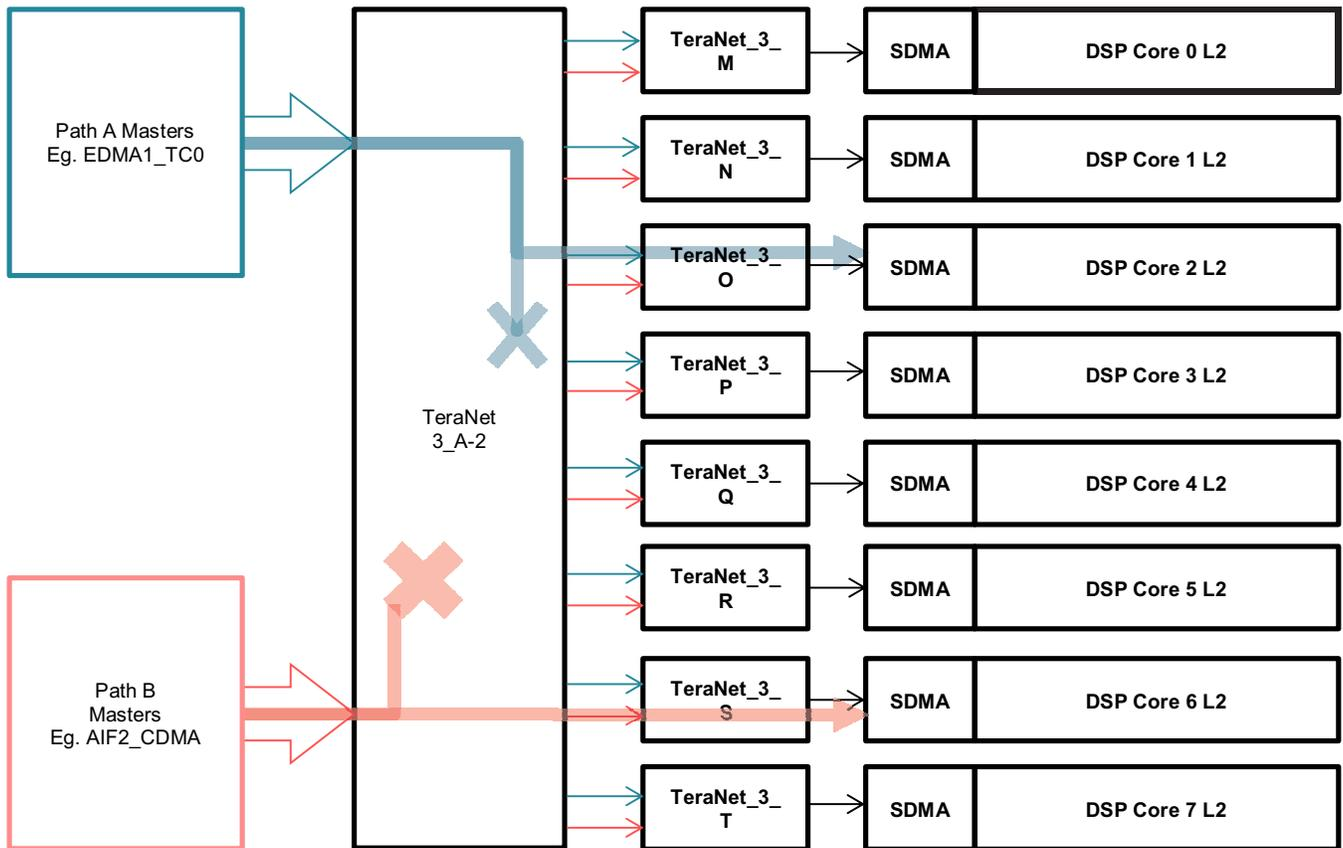

Figure 9. Workaround 2
- For example, see Figure 9 for the TCI6638K2K.